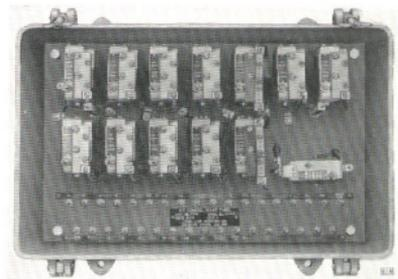

Fig. 17. E.P. control relay panel.
E.P. control relay panel (see Fig. 17).